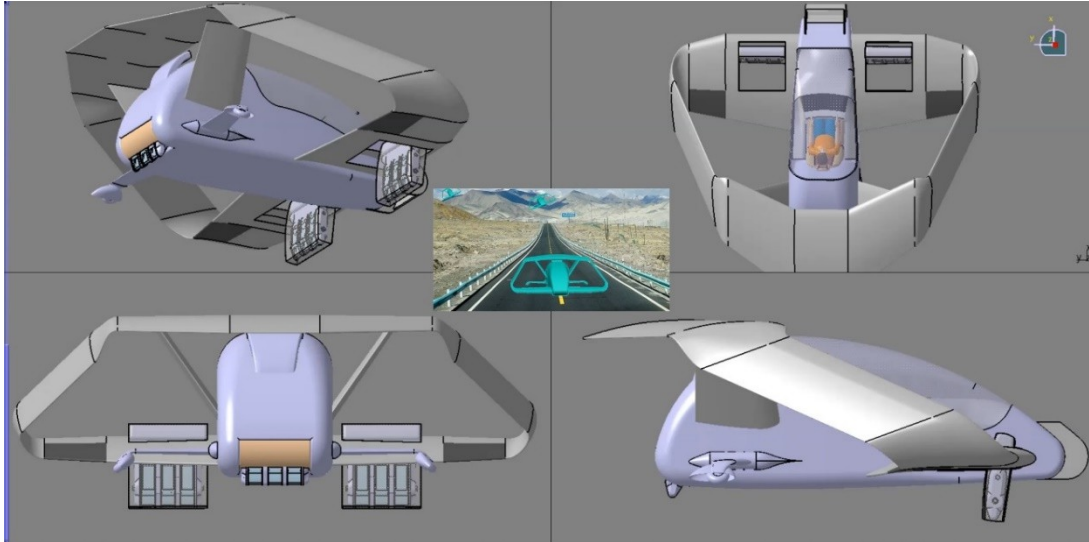

Fig. 2: Drone WIG (Credit M.A.)
The following curve (figure 2) which shows the lift coefficient (CL) as a function of the angle of incidence, i , of the wing explains the gains in fuel consumption in the WIG phase.